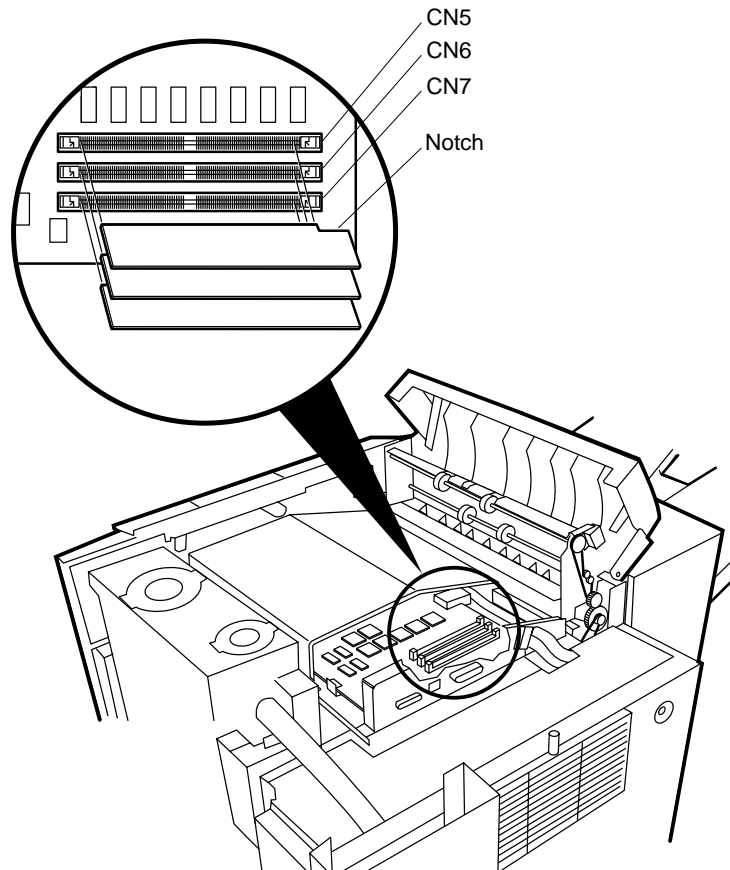

Figure 4-39 Memory Module Slot Location
6. Locate the memory module slots marked CN5, CN6, and CN7, on the main controller as shown in Figure 4-39